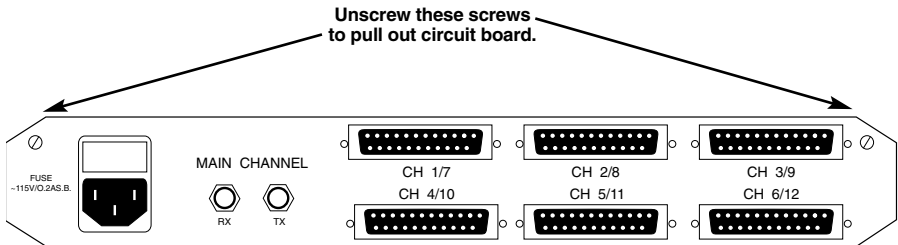

Figure 3-3. Local Fiber Mux-6 Rear Panel.
- a) Unscrew the two upper-cover screws located at the back of the unit (refer to Figure 3-3).
In the following discussions, refer to **Figure 3-3** (rear panel).